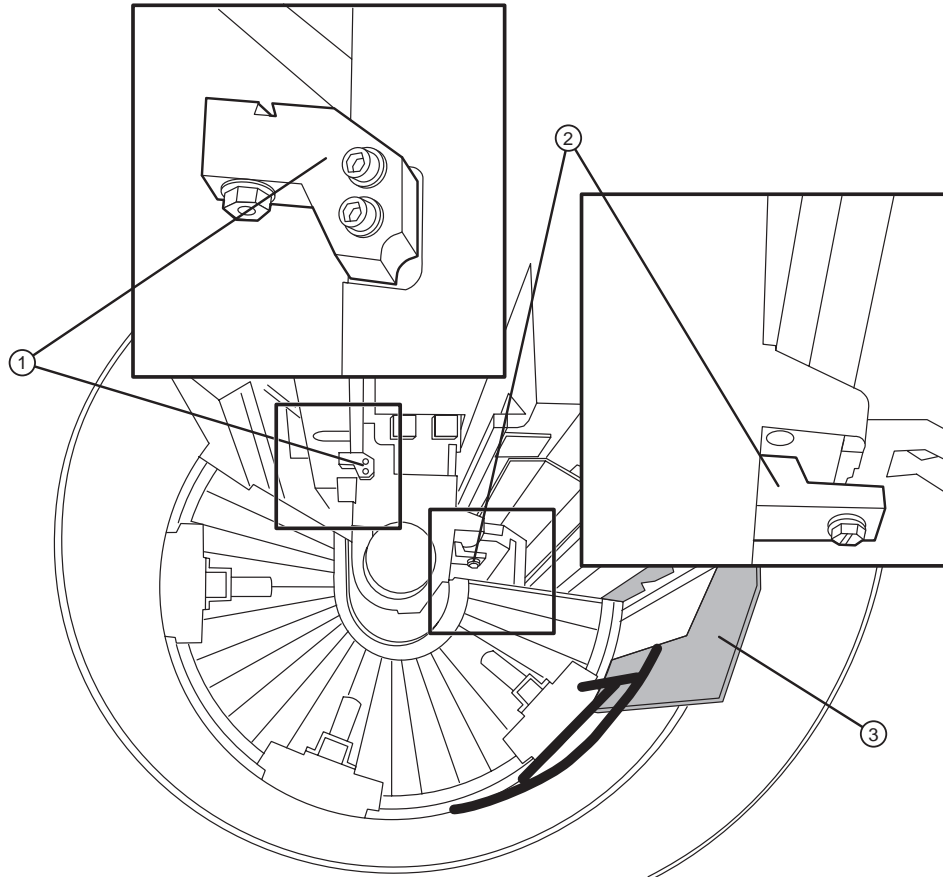

Figure 1-18 Unlocking the carriage.
①—Light shield. ②—Interlock switch. ③—Five latch knobs. ④—Latch knob lock slot.
3. Remove the 3/8" hex bolt in the end stops at each side, left and right, of the carriage. Refer to Figure 1-18.
- ①—One of 2 end stops (1 on each carriage end). ②—Center stop.
③—Foam pad.
5. Power up the imagesetter, which makes the flappers lift. Remove the foam pads from the right hand side of the imagesetter. Refer to Figure 1-18.
6. When the carriage comes into the home position, remove the foam from the left hand side of the system. Refer to Figure 1-18.